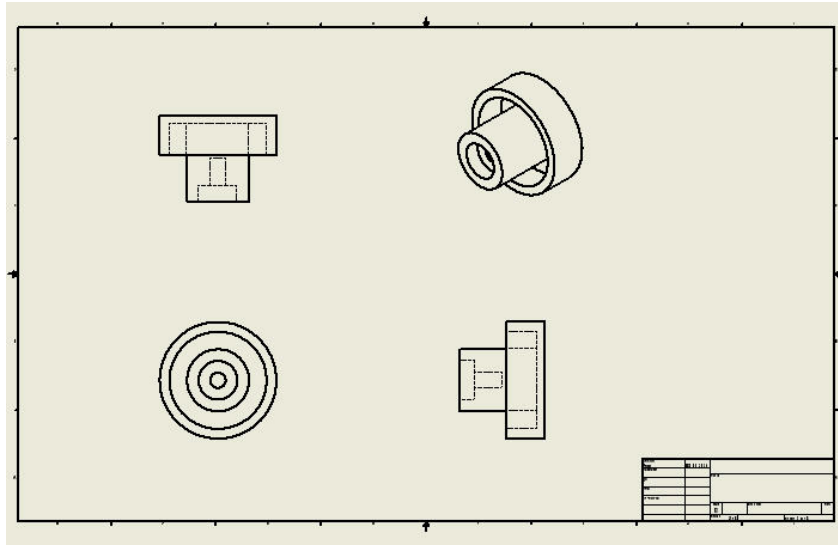

Figure 2-108 Drawing sheet after generating the drawing views
5. Similarly, taking the front view as the parent view, generate the drawing of right-side view and the isometric view, as shown in Figure 2-108.